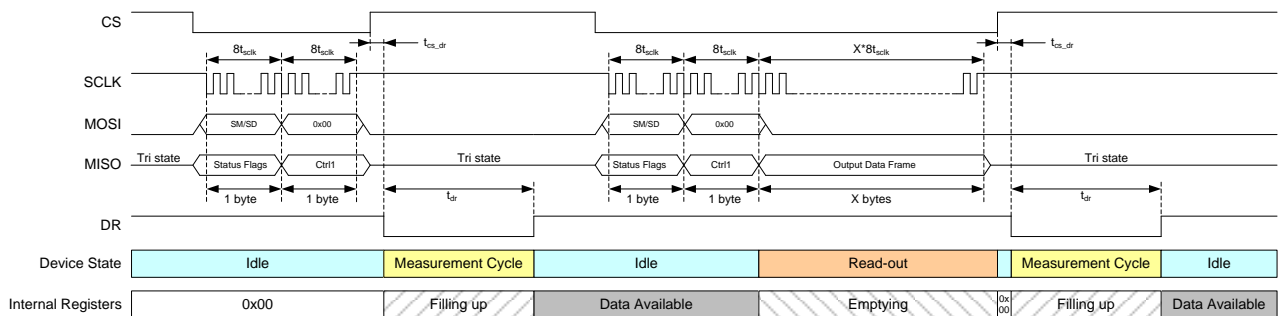

Figure 10 : Combined SM - RO (X value is defined in Figure 6)
- Figure 10 : Combined SM - RO (X value is defined in Figure 6) shows the operation with the combined SM and RO. First one has to upload a SM command to start a measurement. The data is available for read-out when the DR pin goes high. Instead of uploading a RO command, a SM command can be uploaded again to combine read-out and the start of the next measurement cycle. If extra clocks are given after upload of the SM command, the data of the internal registers becomes available on the MISO pin. Note that the CS pin shall not be set high until the read-out is finished. Once CS pin goes high, the DR pin is set low and a new measurement cycle will be started. A time t_{dr} later the DR pin goes high to indicate that the data is available.